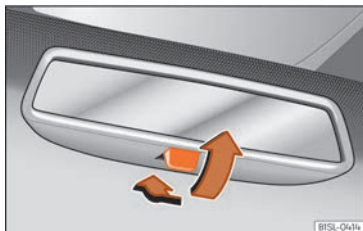

Fig. 150 Manual anti-dazzle function for rear vision mirror
- Pull the lever to the back to select the anti-dazzle function »» **Fig. 150**.